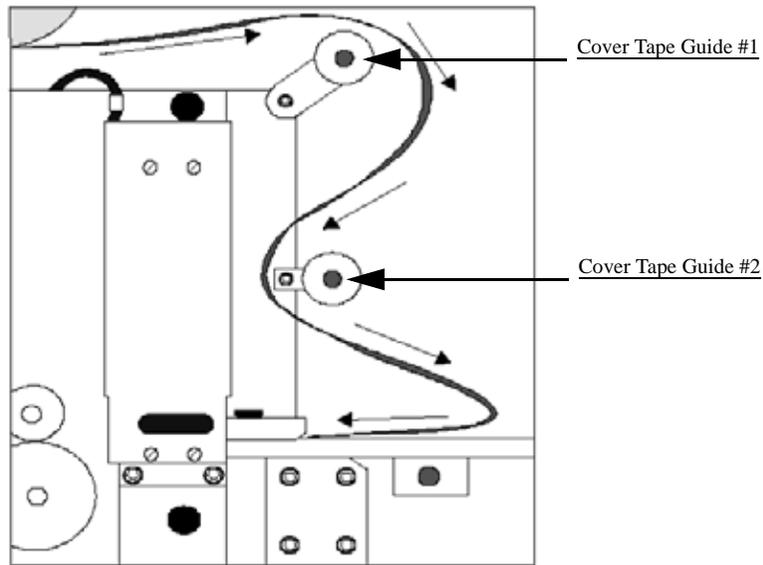

Figure 2-27—Path of cover tape
- 10c) Thread the cover tape around Cover Tape Guide #1 and Cover Tape Guide #2 as shown in *Figure 2-27*.